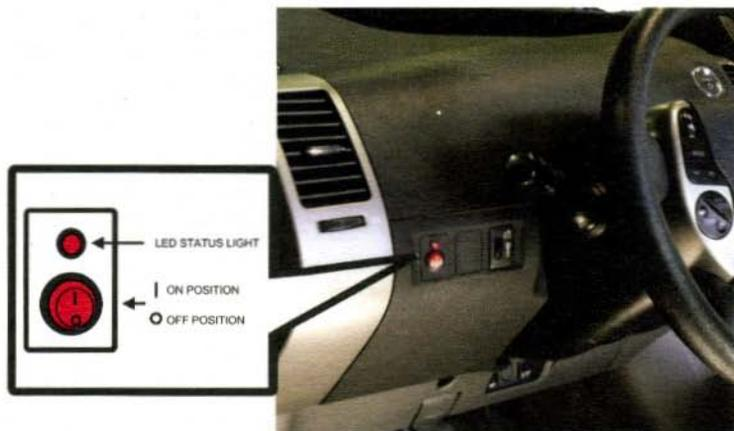

Figure 3 L5 PCM switch
1. Set the dashboard switch to the up position for On or the down position for Off. See Figure 3 for the location and details of the L5 PCM switch.